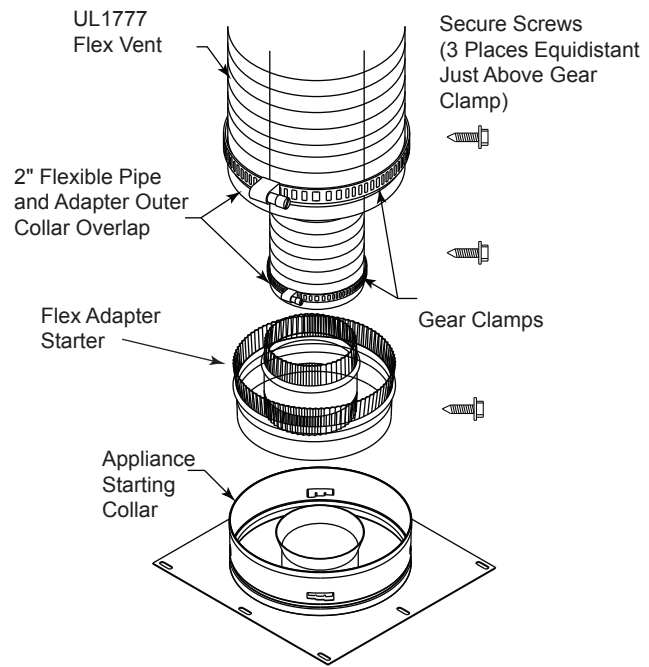

Figure 16 Typical Appliance Connection
A. Installing the inner flex adaptor and pipe. *Figure 16*
1. Attach the DVP flex starter onto the starting collar on the unit. Slide the male end of the inner flue over the inner collar of the appliance, at the same time, slide the outer flue over the outer collar of the appliance. Push the flex starter section into the appliance collar until all the lances have snapped in place. Tug slightly on the section to confirm it has completely locked into place. Install three (3) self tapping #10 screws through the DVP flex starter into the starting collar of the appliance.
- B. Installing the outer flex pipe. *Figure 16*